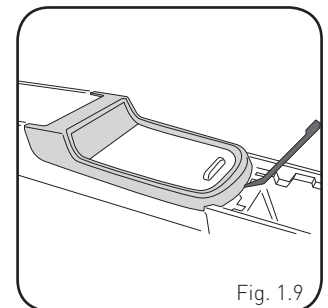

Fig. 1.9
10. Using a panel tool, pry upward on the cup holder trim. (Fig. 1.9)